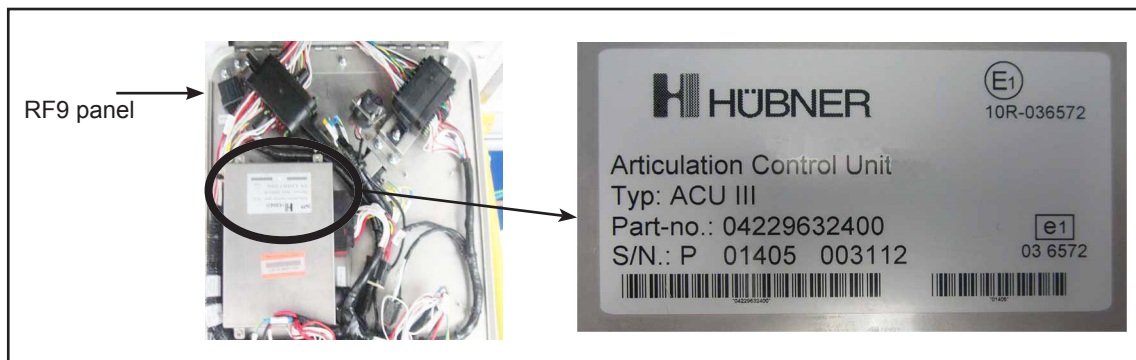

Figure 1 - Location of the Hübner Articulation Control Unit (ACU) in the RF9 Panel
- 1.2. Locate the Hübner Articulation Control Unit (ACU). See Figure 1.